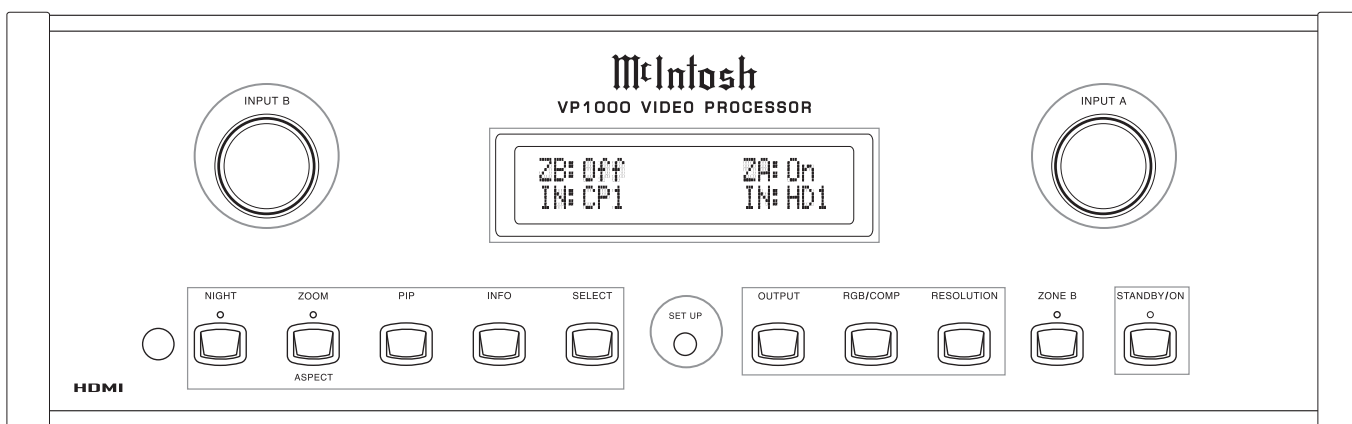

Figure 13
1. Press the STANDBY/ON Push-button on the Front Panel to switch On the VP1000 or press the PWR Push-button on the Remote Control. Refer to figures 13 and 22.
2. Press the VP1000 Front Panel SETUP Push-button. The Front Panel Information Display will indicate ZA OSD ACTIVE. The On-Screen Menu will also appear on the TV/Monitor. Refer to figures 13, 14 and 15.
1. Press the INFO push-button on the Front Panel or Remote Control. Refer to figures 13, 22 and 19.